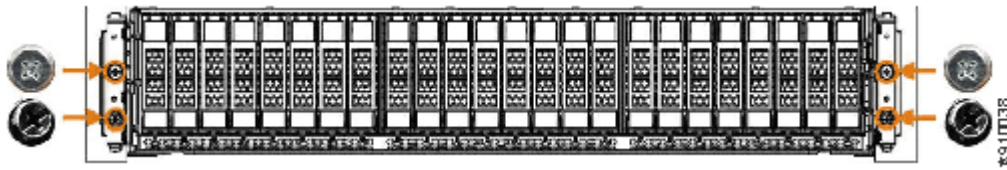

Figure 25. Four screws at the front of the enclosure
6. Unscrew the four M5 screws that secure the left and right end caps of the control enclosure to the rack, as shown in Figure 25 on page 62.